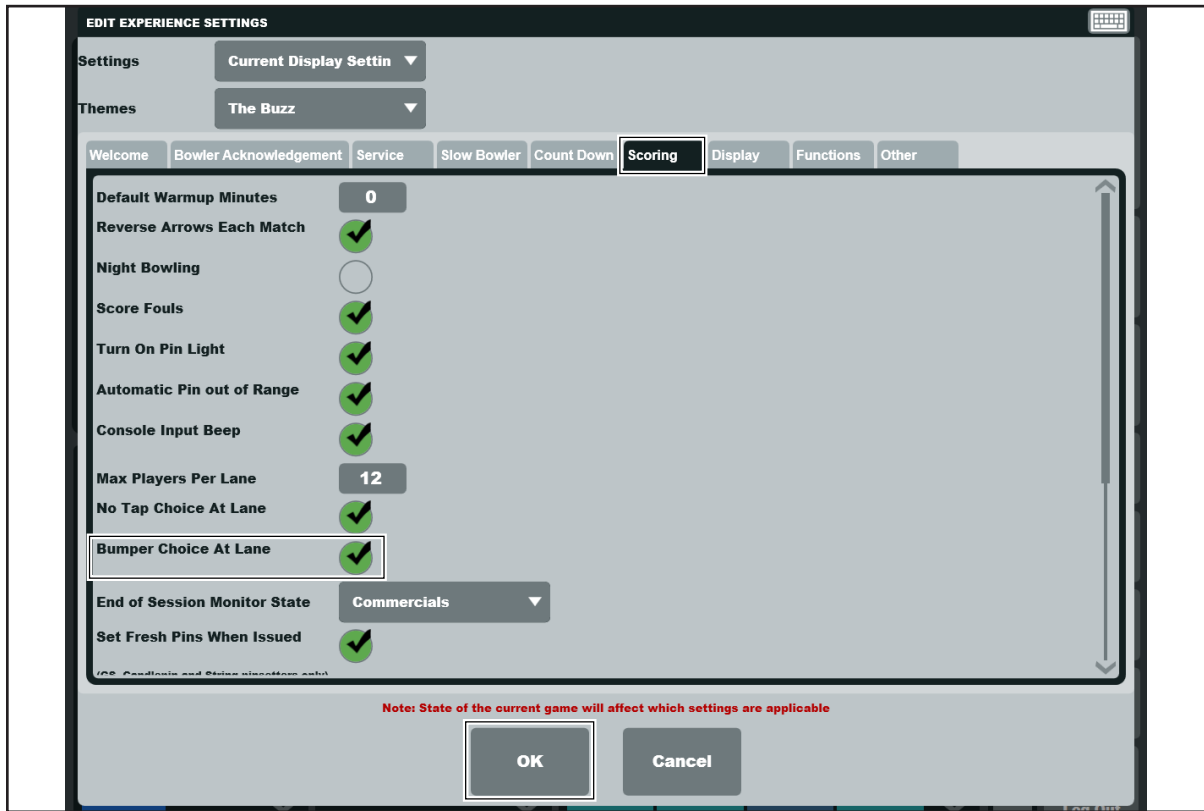

Figure 29. Lanes Screen - Edit
2. Select the Scoring tab. Select the check mark next to Bumper Choice At Lane to enable the feature. Deselect the check mark to disable the feature. Select OK when finished. Refer to *Figure 29*.